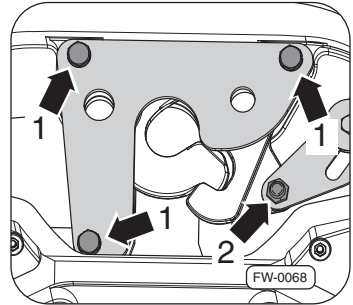

Fig. 36 · Fitting the cover
2. Fasten the lock hook with the new nut ⇒Fig. 36, –item 2– and fit the cover with the new bolts –item 1–. Tighten the nuts as per tightening torque ⇒Page 30.